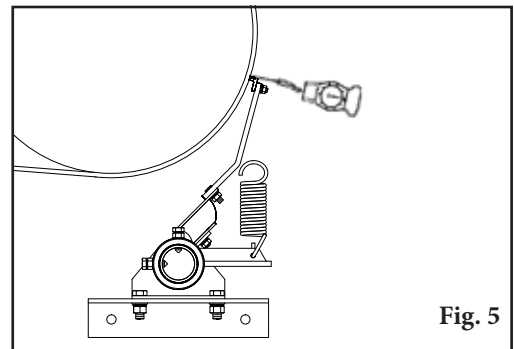

Fig. 5
5. **Check for correct tip tension.** Place a Tip Tension Gauge between the tip and the belt on the centre tip (or tips) (Fig. 5). While pulling in a straight motion, read the tension required to break contact between the tip and belt. 8kg is recommended. Also check tension on both outer tips. Make tension adjustments if needed.